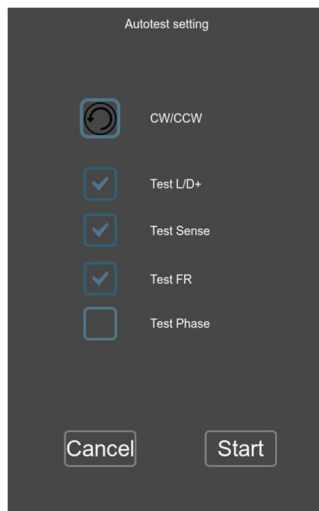

Figure 14
- 7.1. After pressing “Autotest start”, an autotest configuration window will open (see Fig. 14). In this window, you can set the following parameters: